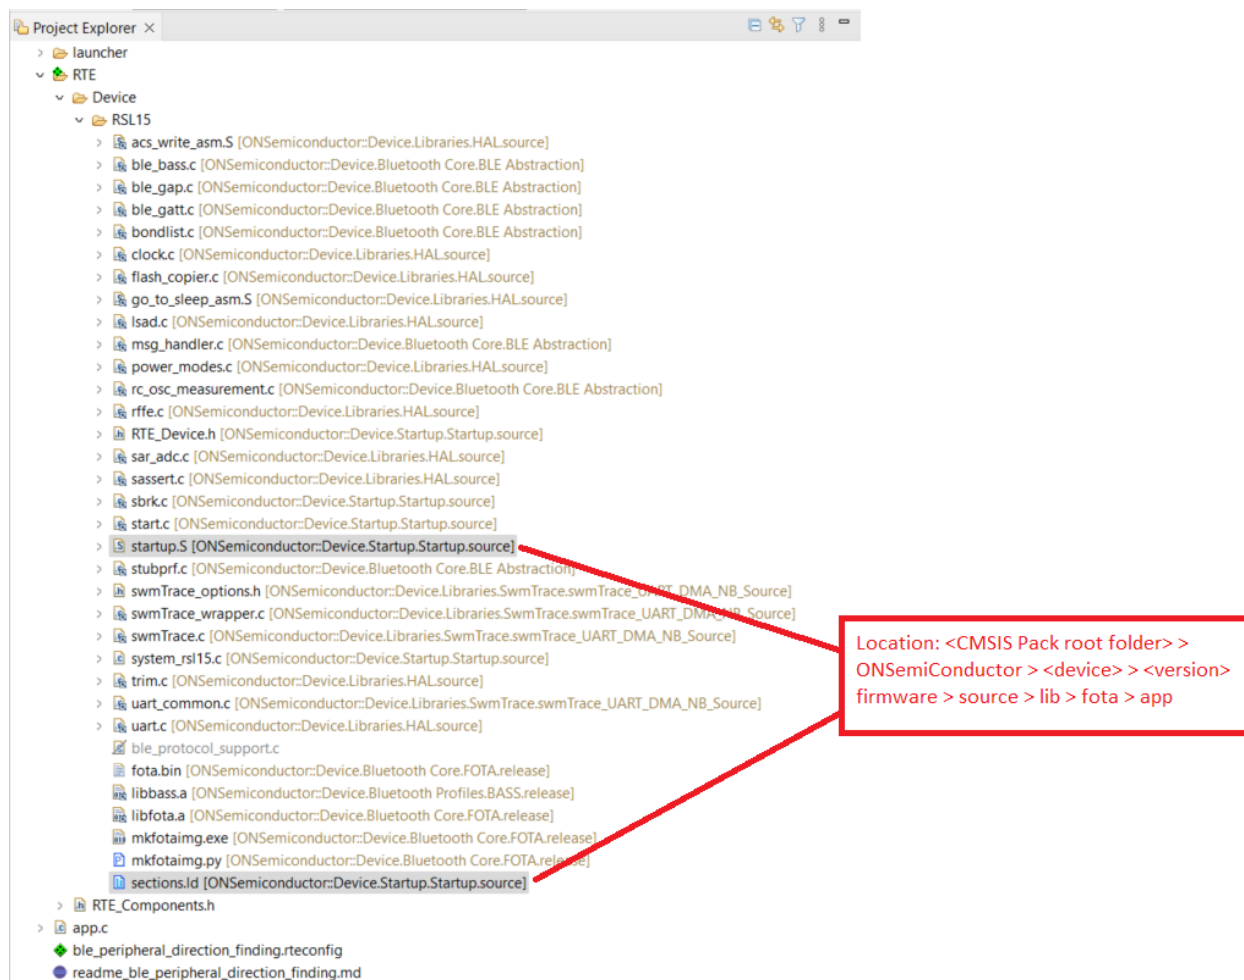

Figure 17. Replacing the sections.ld and startup.S Files
6. Replace your linker script `sections.ld` file with the one that contains the FOTA placement, and also replace your `startup.S` file, as shown in the "Replacing the sections.ld and startup.S Files" figure (Figure 17). The new linker script and `startup.S` file can be copied from *ble_peripheral_server_fota*, or directly from the CMSIS-Pack root folder as follows: